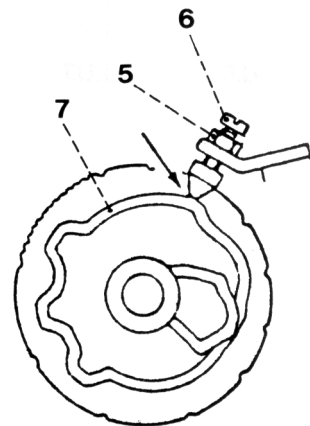

Fig. 2c
- Tighten nut 5 without turning screw 6 (fig. 2c).